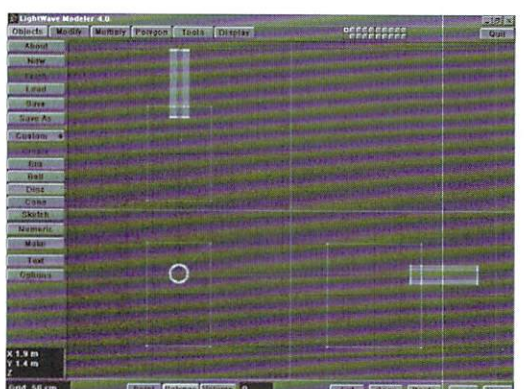

Figure 7: The finished sewer and pipe object.
- Go to layer 1 and click Paste (v). Figure 7 shows the finished object.